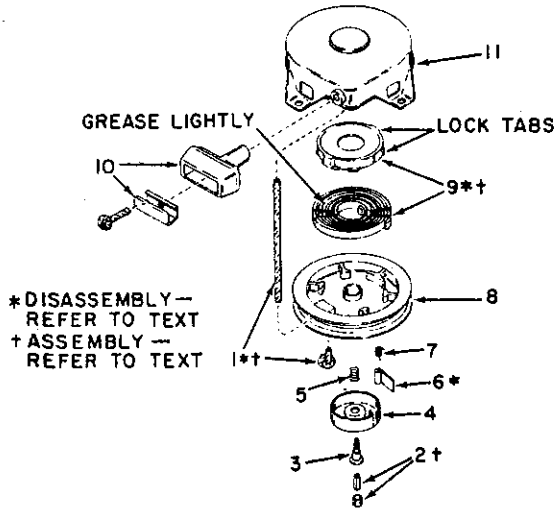

Figure 1
A. Follow number sequence shown in Figure 1 to disassemble starter. Release spring tension